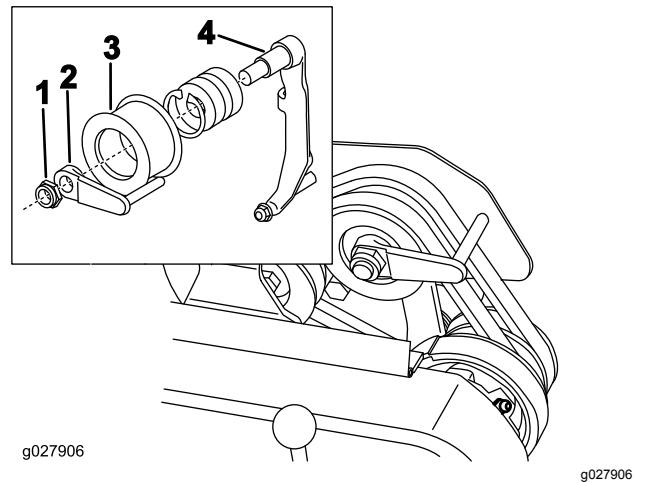

Figure 47
8. To push or pull the machine easier without starting the engine, adjust the belt guide (Figure 47, inset) as follows: